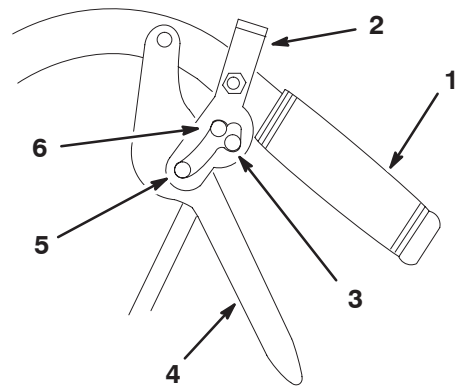

Figure 21
Pull the parking brake lever rearward (Fig. 21).
2. Place thumbs on the upper part of of locks and move them back (Fig. 21).
2. Place thumbs on the upper part of of locks and move them forward until in forward slot (Fig. 21).